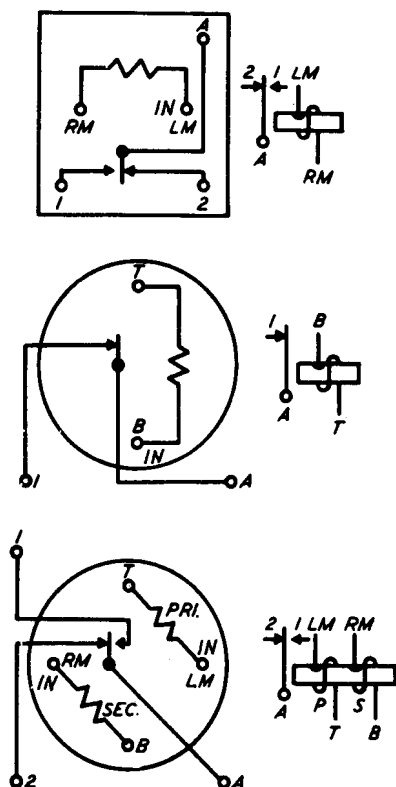

Fig. 31 – Winding and Spring Terminal Arrangement as Viewed From the Rear (terminal side) — 114-, 124-, 126-, 174-, and 198-Type Relays
**2.42** The front contact is indicated by 1, the armature by A, and the back contact by 2 except on relays having only a back contact in which case the back contact is indicated by 1 and the armature by A. Fig. 31 shows the relative location of the winding terminals of these relays, as viewed from the rear, when mounted with the retractile spring at the right. The test clip data specified on the circuit requirements table are based on this position of mounting. If the relay is mounted with the retractile spring in any other position, the test clip data should be translated to care for this position of mounting.